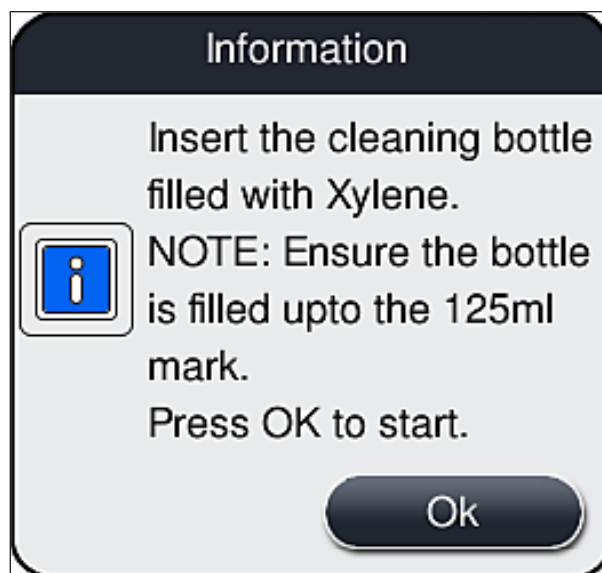

Fig. 102
10. Then confirm the information message (→ Fig. 102) with **OK**.